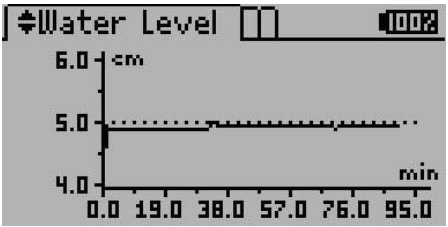

Figure 20 Water Level screen
- **Water Level Screen.** After a test is started, the water level above the soil ramps up to 5 cm. The Water Level screen displays the current water level on a graph that is updated every minute (Figure 20). The current point is indicated by a flashing dot.